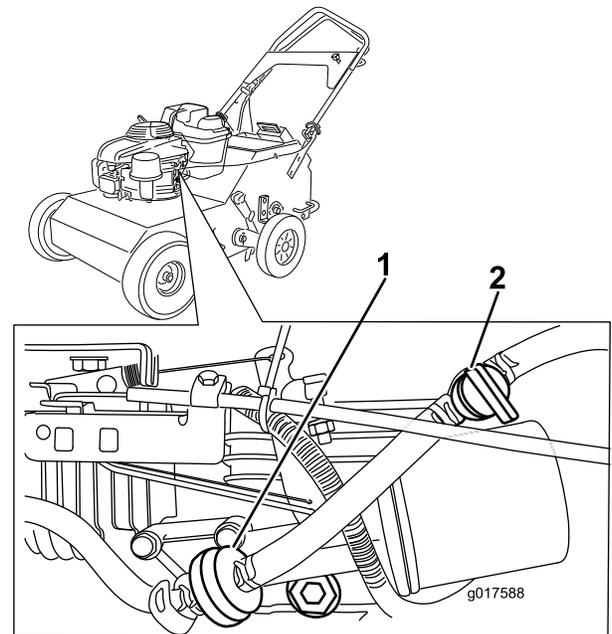

Figure 11
2. Open the fuel-shutoff valve (Figure 11).